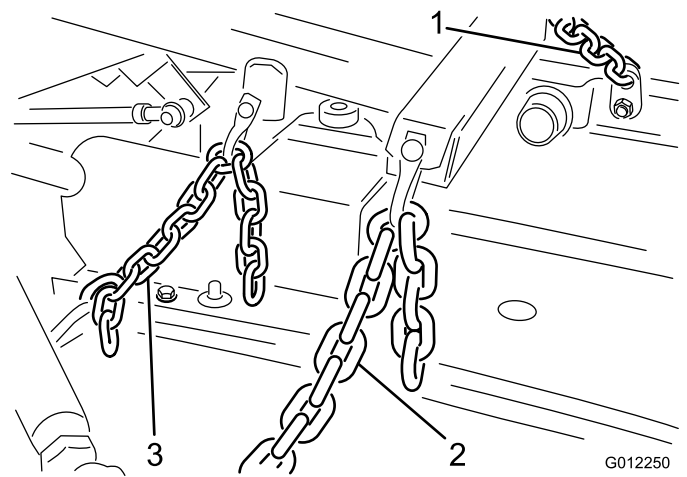

Figure 12
2. Connect the ends of the tension spring between the fourth link of the rear chain and the eye of the cotter pin that holds the cylinder pin in place (Figure 12).
1. Connect the lift chains to the lift arm and cutting unit chain brackets with 6 shackles, shackle pins (3/8 x 1-1/2 inches), and cotter pins (1/8 x 3/4 inch) (Figure 12).